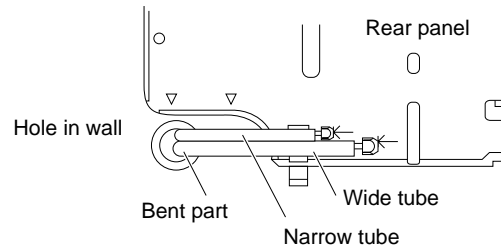

Fig. 27a
(1) Lead the tubing and drain hose through the wall, allowing sufficient length for connection. Then bend the tubing using a tube bender to make the attachment. (Fig. 27a)
(2) Switch the drain hose and drain cap.